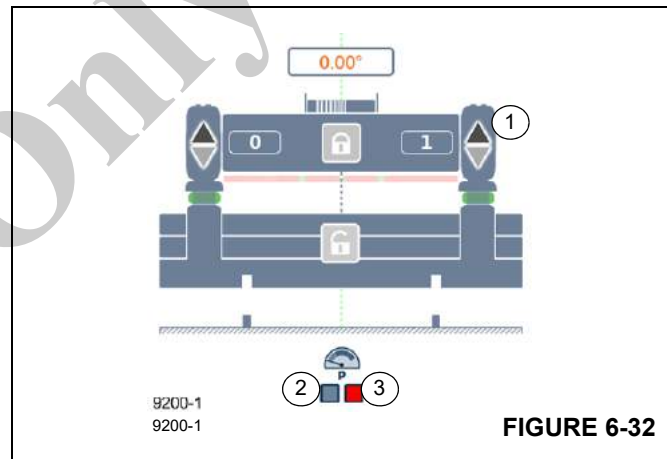

FIGURE 6-32
When the symbol (3), (Figure 6-32) is red, you must pre-tension the counterweight.
- Select and confirm the symbol (1), (Figure 6-32) until the symbol (2), (Figure 6-32) becomes green.